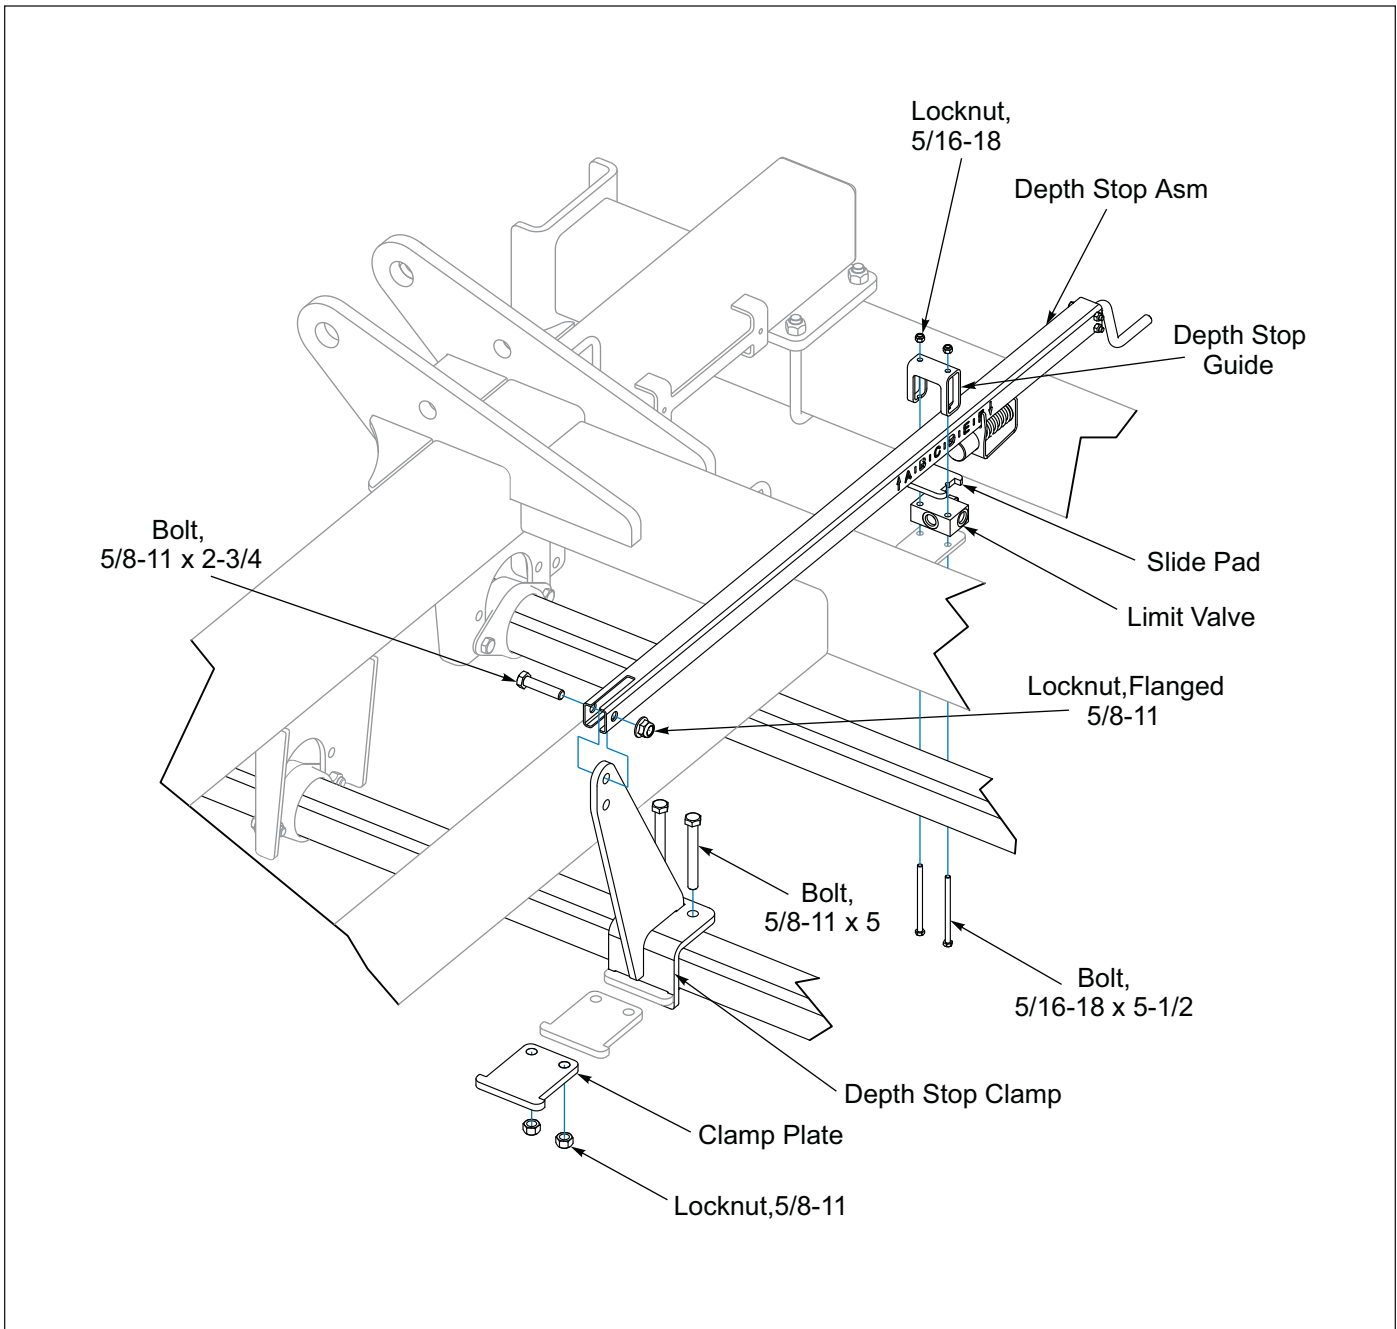

Figure 2-34: Shank Depth Control Installation
1. If not already done, install Limit Valve, Slide Pad and Depth Stop Guide to Limit Valve Mount located at the front of the left side frame cross tube with 5/16-18 x 5-1/2 Bolts and Locknuts. **See Figure 2-34.**